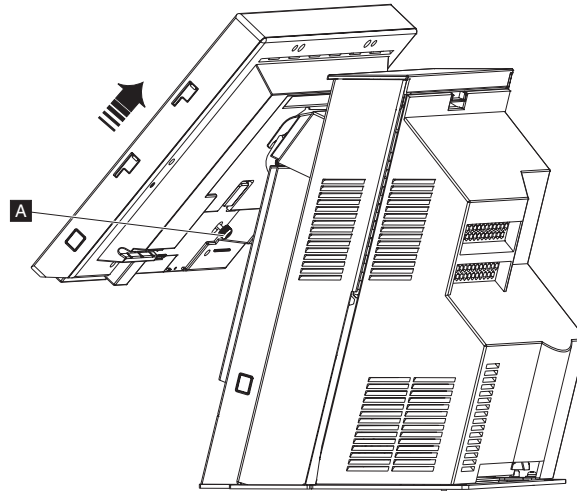

Figure 12. Removing the display tablet
2. Tilt the tablet back and loosen the two thumbscrews **A** in Figure 12 under the tablet.